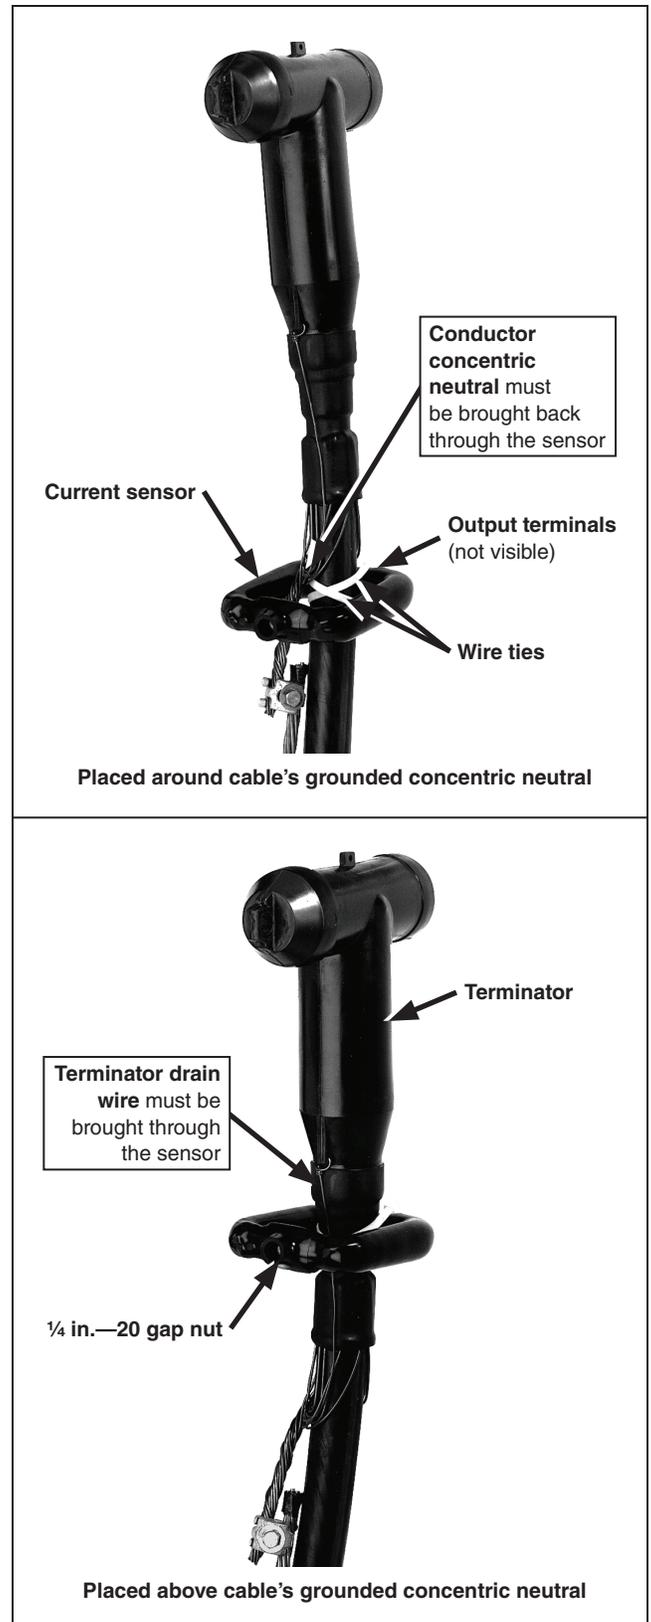

Figure 10. Typical method for attaching S&C Current Sensor to high-voltage cable.
STEP 2. Secure the current sensor to the high-voltage cable at a point below the cable terminator or stress cone using the plastic wire ties furnished. See Figure 10.